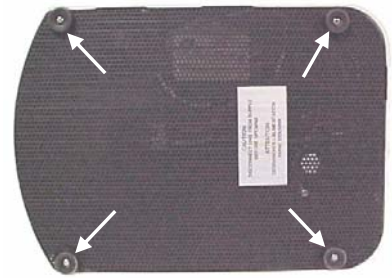

Fig. 3
- a. Rest the stereomicroscope on its side being extremely careful, especially with the eyepiece (1) and the stage (11).
- b. Unscrew the 4 screws indicated (Fig. 3) and open the cap on the base.
- a. Unscrew the illuminator protector tube (7), turning it anti-clockwise, and removing the tube from that of the lenses.